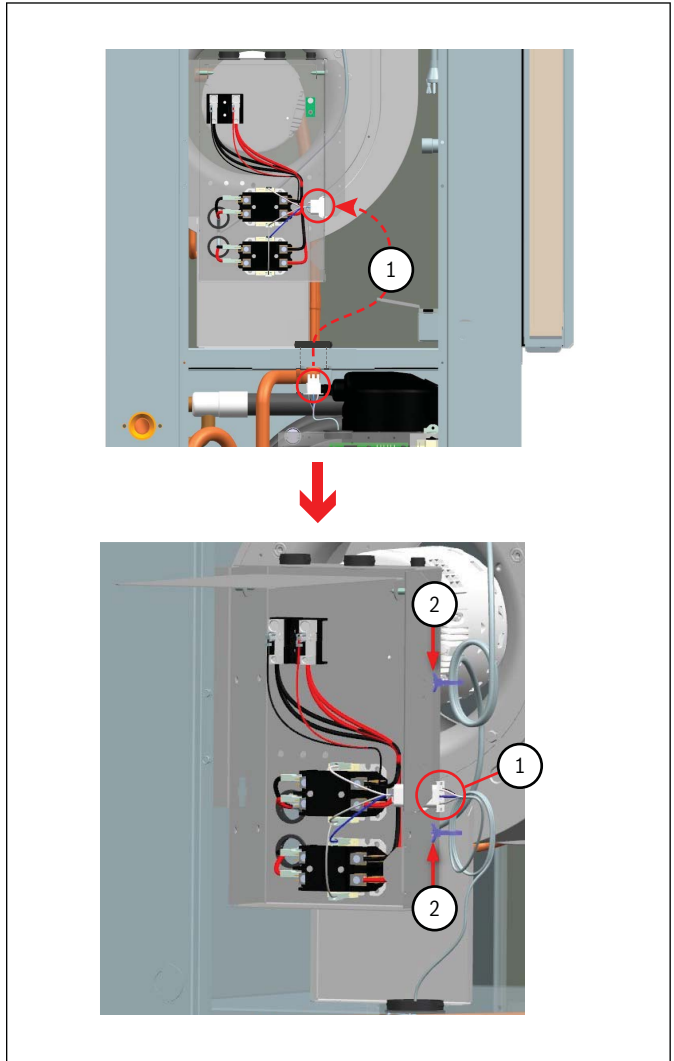

Figure 40
- Take the male end of the J39 plug harness and fish it through the unit divider hole. Connect this plug into the female J39 connector (Figure 40, Pos. 1) on the side of the Electric Control Box. Using push tie straps provided, bundle excess element and control wiring (Figure 40, Pos. 2) as shown.